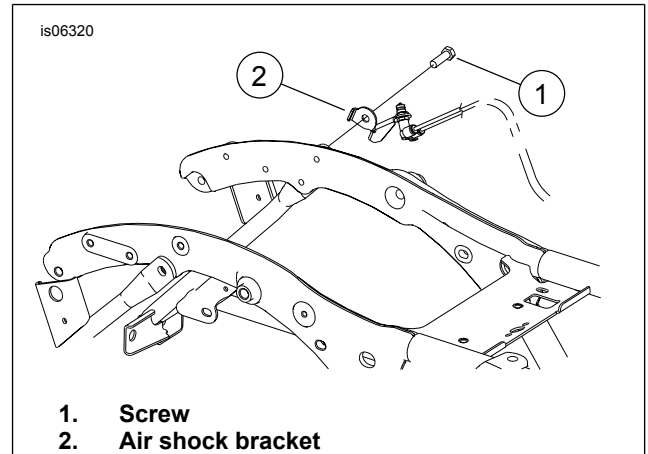

Figure 1. Remove Air Shock Bracket
2. See Figure 1. Remove screw (1) from the air valve bracket assembly and remove assembly. Save the air valve bracket assembly if you plan to reuse the air shocks. Install the screw to the frame rail and saddle bag support and tighten to 20.3–27.1 N·m (15–20 ft-lbs). If wire harness is secured to air shock bracket with a cable tie, remove cable tie. Install a new cable tie around wire harness and saddlebag support.